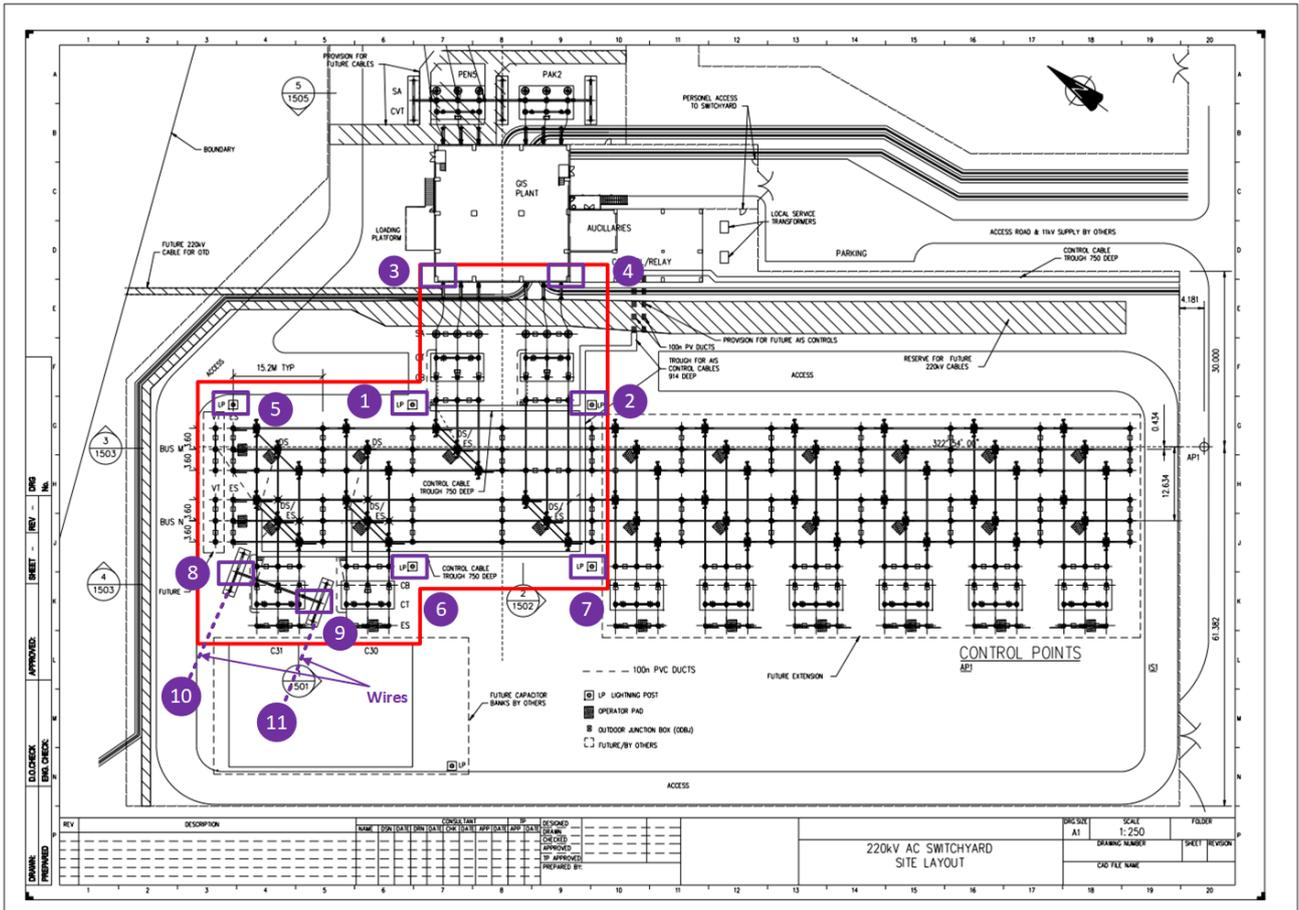
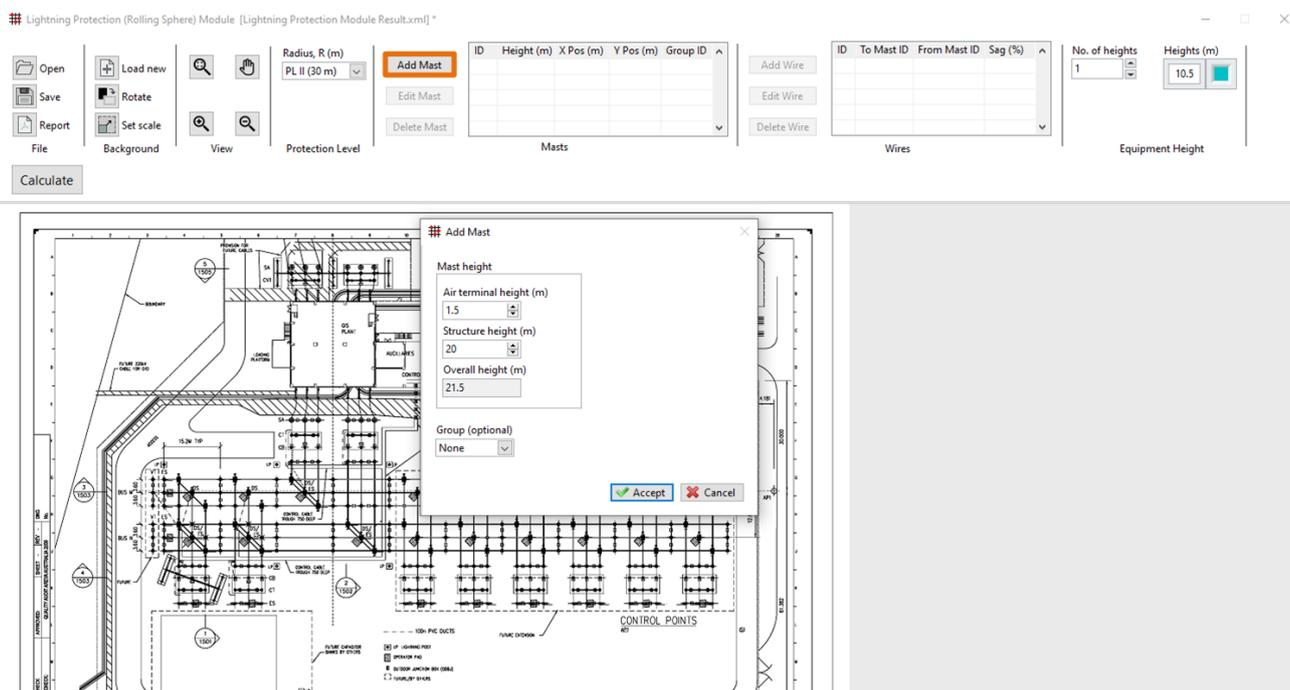

Figure 6 – Lightning masts at various positions
Figure 7 – Adding a mast
In Figure 6, the purple boxes represent the positions for the lightning protection systems, i.e. lightning posts (LP). Select the protection level you wish to use to cover your structure; in the case of the substation, a protection level of 2 is selected. Then, click the **Add Mast** button as per Figure 7. This will bring up a small window where you can define the air terminal height and structure height.